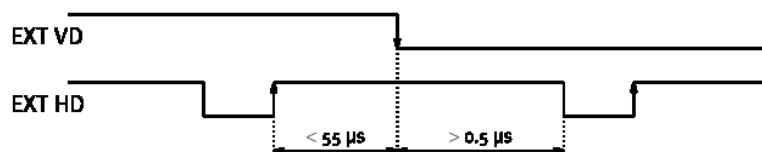

Fig. 16. Ext. HD and ext. VD phase conditions.
The time requirements to the relation between VD and HD are shown in fig. 16.
- See Fig. 16 for the phase relationship between ext. HD and ext. VD pulses.
- See Fig. 16 for the phase relationship between ext. HD and ext. VD pulses